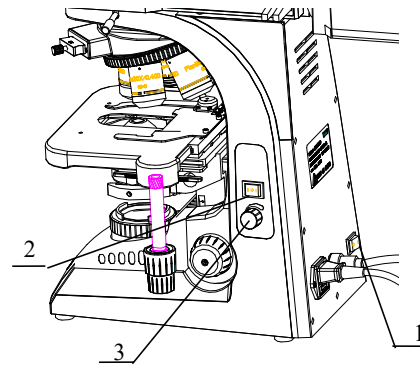

Fig.15
Connect the power supply, set the main switch (Figure 15, 1) to " | " (connected), then set the selective switch (Figure 15, 2) to "II" (on state). If you are using the transmission type lighting, set the main power switch (Figure 15, 1) to " | " (connected), then set the power switch to " | " (on state).
- Turn the brightness adjustment knob(Figure 15, 3) clockwise to increase the voltage and make illumination bright; Turn the brightness adjustment knob anticlockwise to reduce the voltage and make illumination weaken.